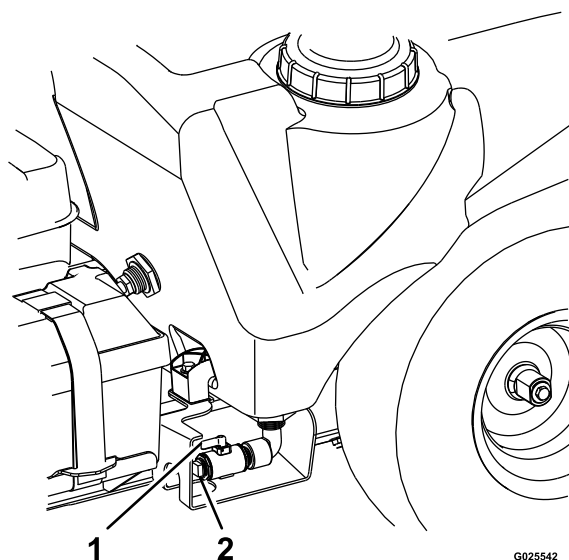

Figure 45
2. Remove plug from the drain valve for the sprayer tank (Figure 45).
5. Rotate the handle for the drain valve clockwise 90° to drain the tank (Figure 45).
6. Close the tank drain valve, remove the drain hose and install the drain plug into the valve (Figure 45).